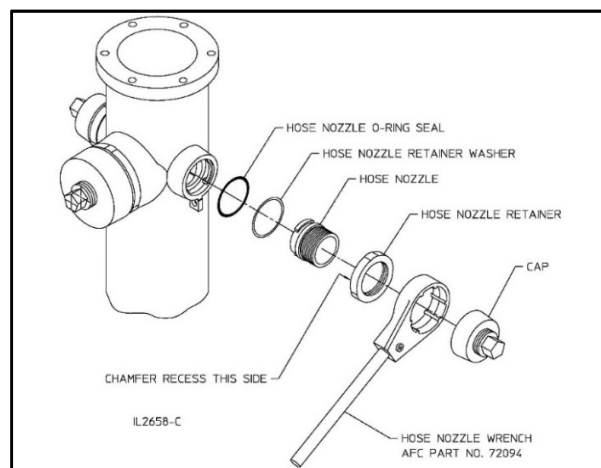

Figure 2 – Hose Nozzle Assembly
6. NOTE: Excluded from this service notice are a limited number of American-Darling hydrants produced in 2006 using the Amlok nozzle system. This design used set screws to retain the nozzle and does not employ the hose nozzle retainer, detailed in Figure 2.
1. To avoid potential injury, be sure to wear gloves when handling threaded components. Refer to Figure 2. Place the hose nozzle wrench on the retainer so it engages the rounded protrusions. Turn the retainer in a counterclockwise direction. Unthread the retainer from the hose nozzle.
1. Referring to Figure 2, thread the retainer onto the retainer threads of the hose nozzle.